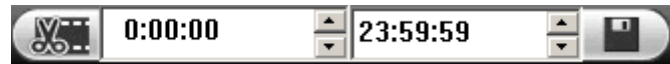

Figure 5-78
- In this following figure, input start time and end time. See Figure 5-78. Click save button .